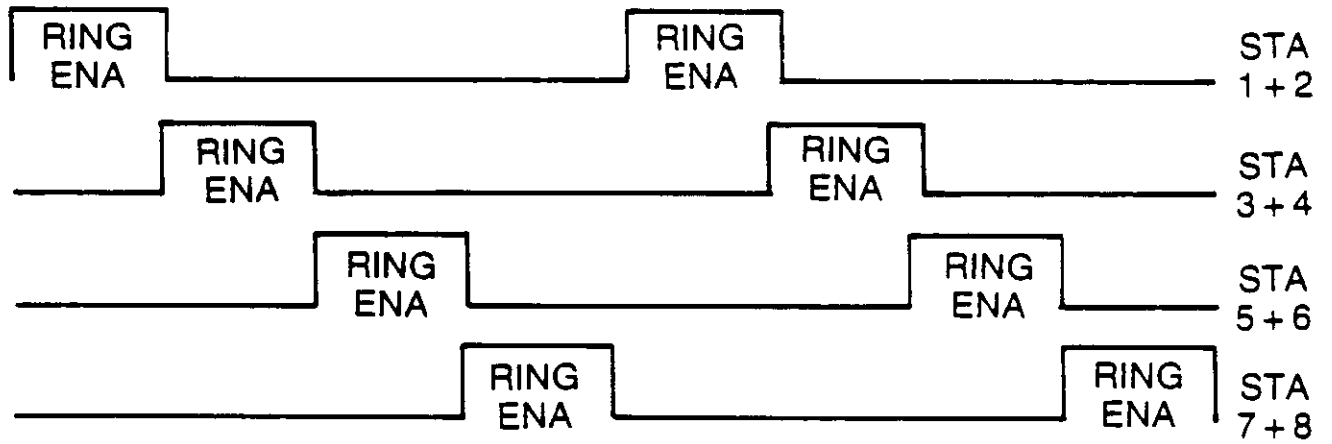

Figure 12 B-8SLU-B RING ENABLE CYCLES
5.02 Ring Equivalence Number (REN) considerations when connecting on-premise stations are provided in Figure 12.
Figure 12 shows the relationship between the ring enable signals found on one SLU card. The ring equivalence number (REN) of the station pairs shown (1 and 2, 3 and 4, 5 and 6, 7 and 8) must not exceed 50B when both stations in each pair be addressed to ring at the same time.